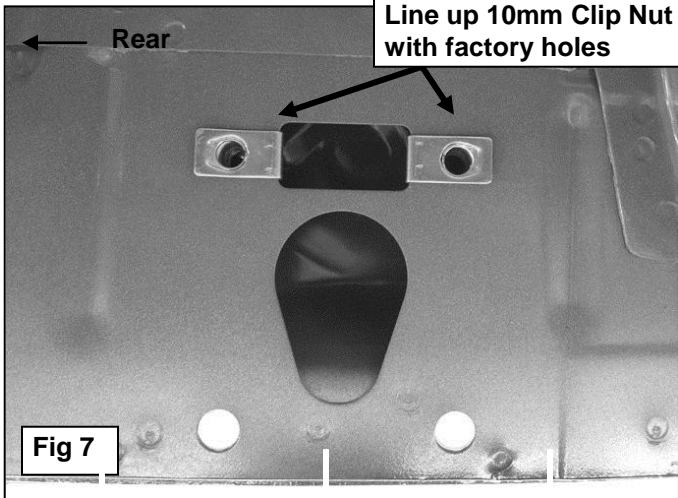

Fig 7
- Move to the last mounting location at the rear of the cab. Repeat **Steps 2 – 3** for Rear Mounting Bracket installation, **(Figures 6 & 7)**. **NOTE:** Each rear mounting location is made up of a rectangular hole with a round hole on each side and two holes through pinch weld, **(Figure 7)**.